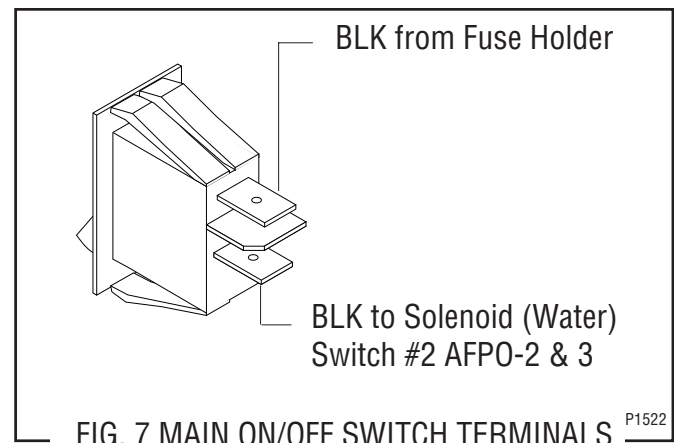

FIG. 7 MAIN ON/OFF SWITCH TERMINALS P1522
4. Refer to Fig. 7 when reconnecting the wires.